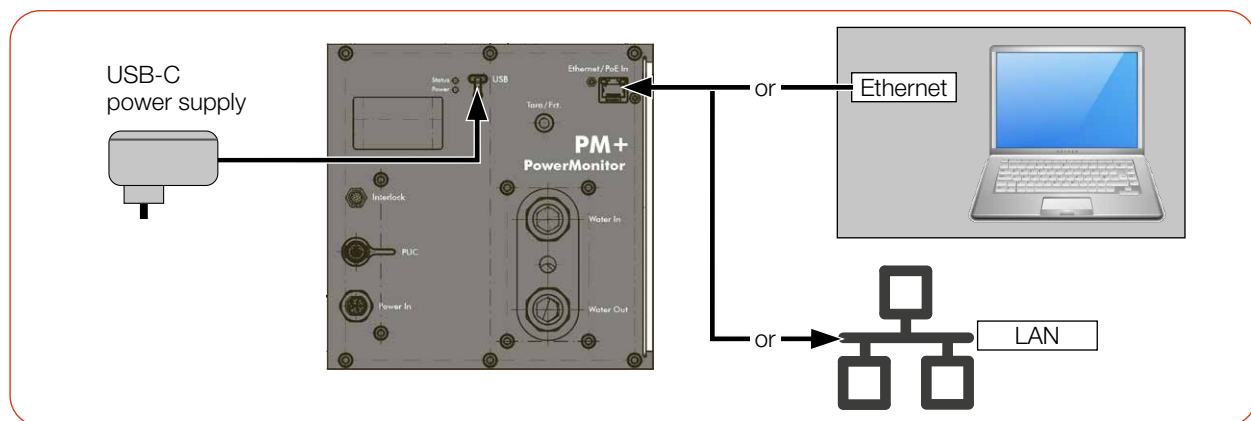

Fig. 7.6: Power supply via USB-C power supply, data transmission via Ethernet
► Connect the power supply according to Fig. 7.6 on page 30.